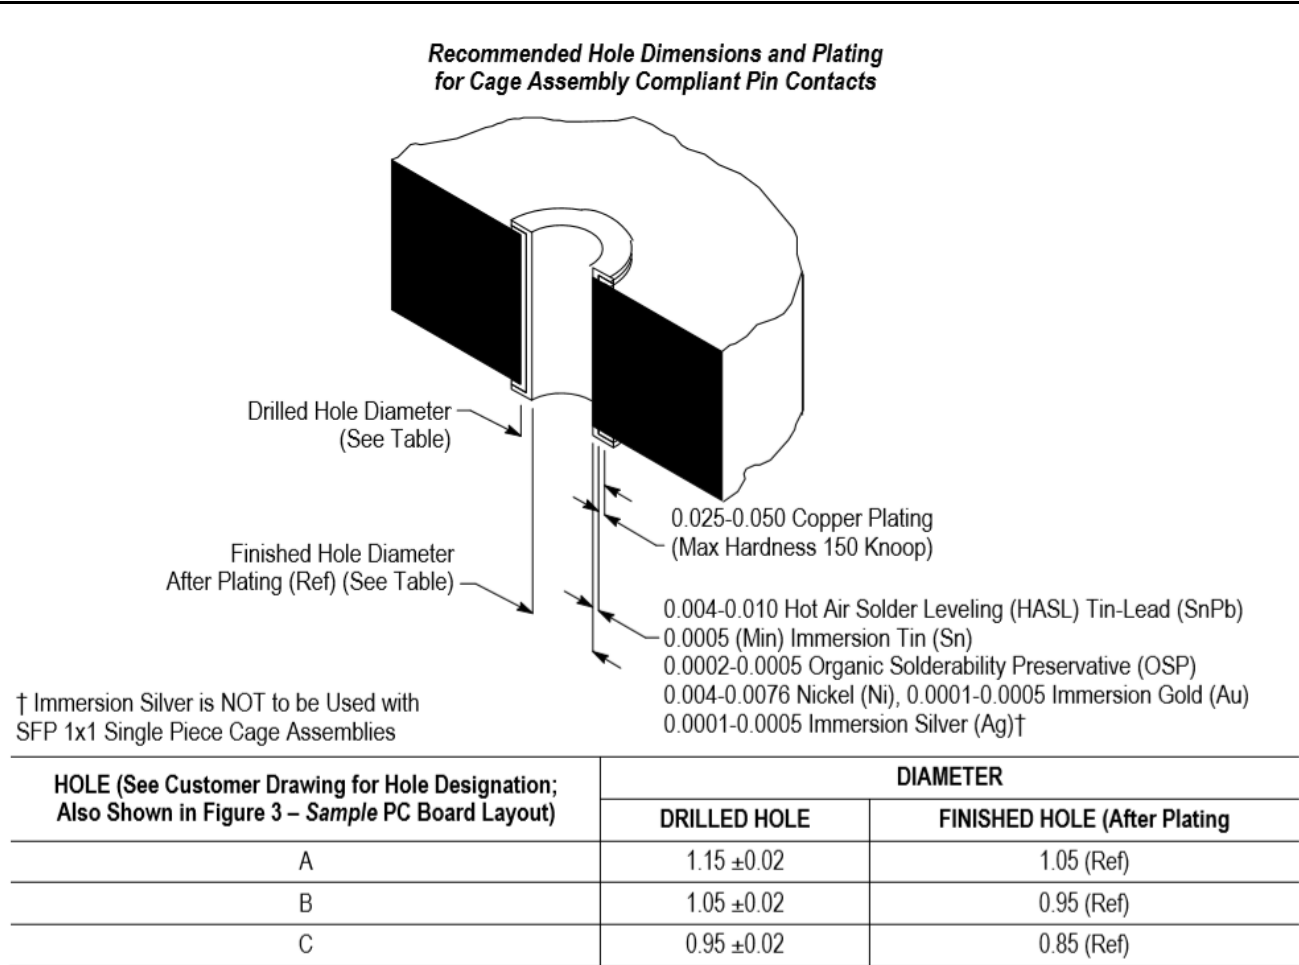

Figure 3
- ① DATUM AND BASIC DIMENSION ESTABLISHED BY CUSTOMER.
- ② REFERENCE HOLE A IN FIGURE 3
- ③ REFERENCE HOLE B IN FIGURE 3
- ④ DATUM -A- IS TOP SURFACE OF THE HOST BOARD.
The cage assembly compliant pin holes must be drilled and plated through to specific dimensions to prevent stubbing during placement of the connector and cage assembly on the pc board. The drilled hole size, plating types, and plating thickness are dependent on the application requirements. The finished hole size must be as stated to provide unrestricted insertion. See Figure 3.